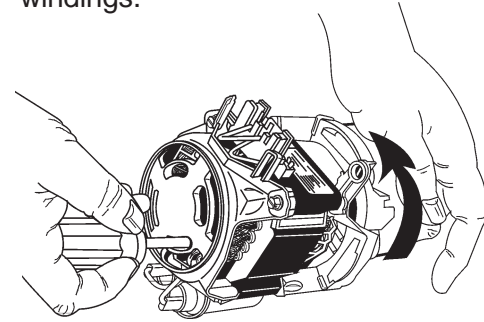

Fig. 3-23
1. Place the end of a flat-bladed screwdriver into the back of the wash motor to hold the armature of the motor from turning while unscrewing the impeller clockwise. (Fig. 3-23) Take care not to scratch or nick the motor windings.